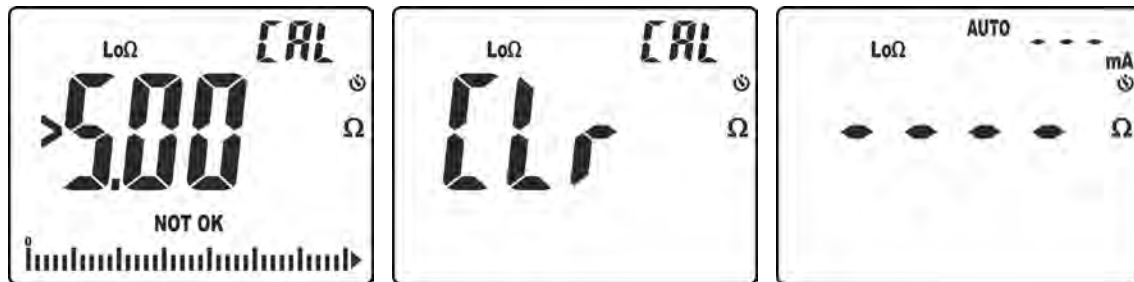

Fig. 34: Results of zeroing not correctly performed
6. Messages " $>5.00\Omega$ " and "NOT OK" are initially shown on the display (see Fig. 34 – left side). Subsequently, message "CLr" is shown, to indicate that calibration has been cancelled (see Fig. 34 – middle) and the message "ZERO" is not shown in the measuring screen (see Fig. 34 – right side).